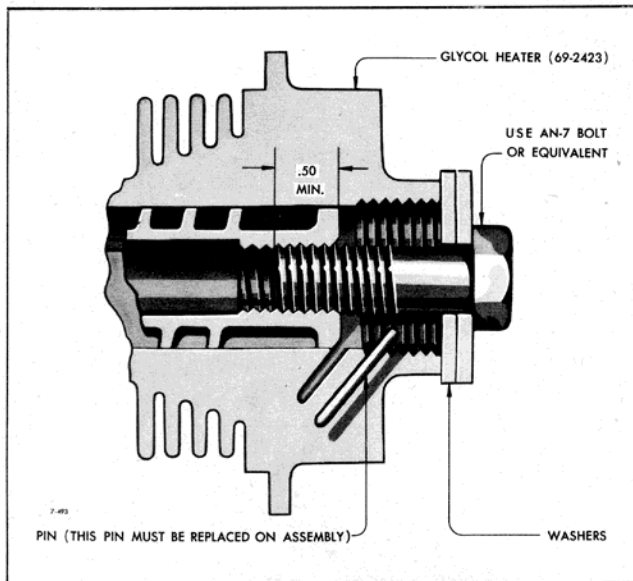
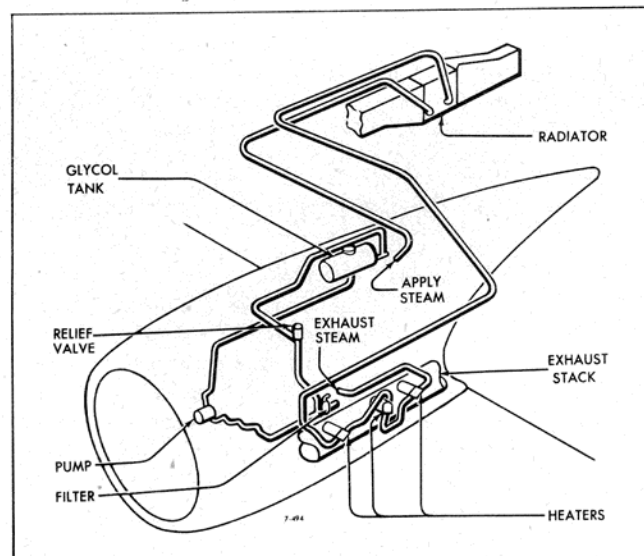

Figure 349—Heater Core Removed
Figure 350—Glycol System
(1) Drain old fluid from system at filter and pump.
(3) **IF GLYCOL SYSTEM IS FUNCTIONING:** The cores may be removed from the heaters without removing heaters from stack. (See figure 349.) Clean heaters and replace end caps, leaving out cores.
(4) Clean purolator filter as follows: Plug inlet connection. Remove the cleaning plug on the bottom. Apply pressure (steam or air) to the outlet port, at the same time turning the filter handle.
(5) Apply steam pressure to the return line from radiator at the supply tank. (See figure 350.) Direct steam through radiator until a good, clean, steady flow exists from connection to filter. This is done to avoid clogging the radiator with any loose carbon.
(6) Remaining lines shall be blown out with air pressure unless the system is badly clogged; steam may then be used. Excessive temperatures are detrimental to flexible hose, therefore, do not pass steam through hose unless absolutely necessary. Blow out entire system with air pressure to prevent dilution of glycol fluid.
(7) Install cores in heaters. Reconnect units using "oildag" at all tube fittings. Fill system with clean glycol fluid as prescribed in section III, and carefully check all lines for leakage.
(8) No. 2 engine should be started and the glycol pump allowed to circulate the fluid. When the engine is stopped, check the tank and add glycol to obtain proper fluid level.
(1) Follow preferred method of cleaning system, except hot water may be pumped through the line in place of steam.
(2) When no auxiliary equipment for cleaning is available, clean as follows: Drain glycol and reconnect lines. The return line from radiator to tank should be disconnected. (Shown on figure 350 as "Apply Steam.") The system is flushed by running the engine at warm-up speed and at the same time constantly adding water to the glycol tank.